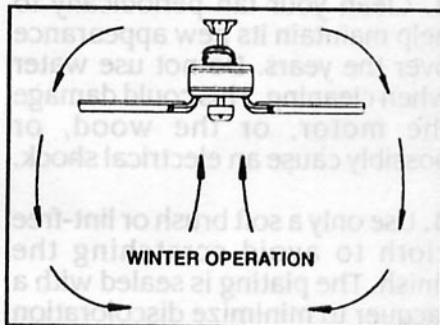

FIG. 18
**Cool weather** – (Clockwise) An upward airflow moves warm air off the ceiling area as shown in Figure 18. This allows you to set your heating unit on a cooler setting without affecting your comfort.